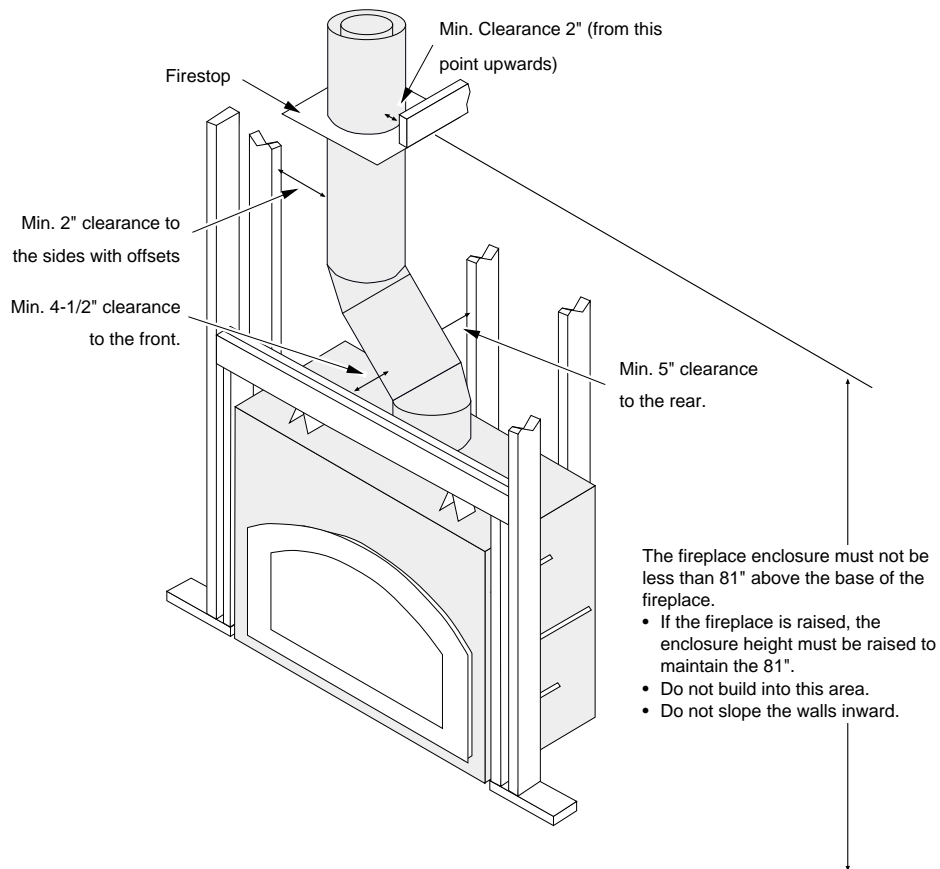

Figure 23
- Maintain a 2" clearance from the chimney to combustibles (measured horizontally). See Figure 23.